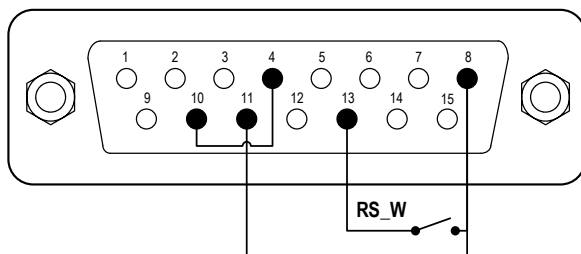
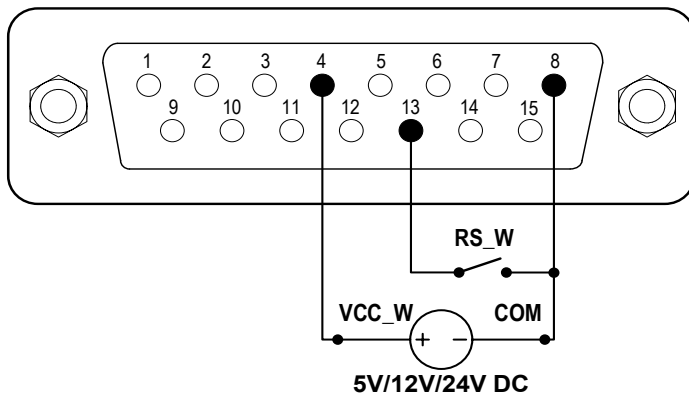

Figure 19. Logic Level 1 Control with Internal 12V Power Source
Figure 20. Logic Level 1 Control with External Power Source
- 1) Switch the power off. Wire the DB15 connector as shown in Figure 19 or Figure 20, and connect it to the DB15 port on the rear of the pump.